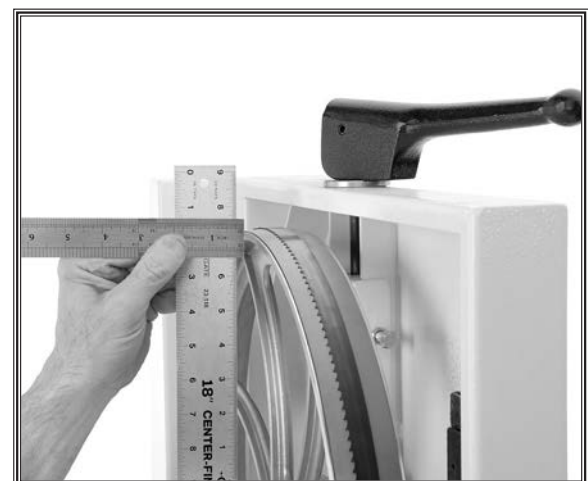

Figure 56. Measuring wheel difference.
3. With the straightedge touching both points of the wheel that does not need to be adjusted, measure the distance away from the incorrect wheel with a fine ruler (see Figure 56).